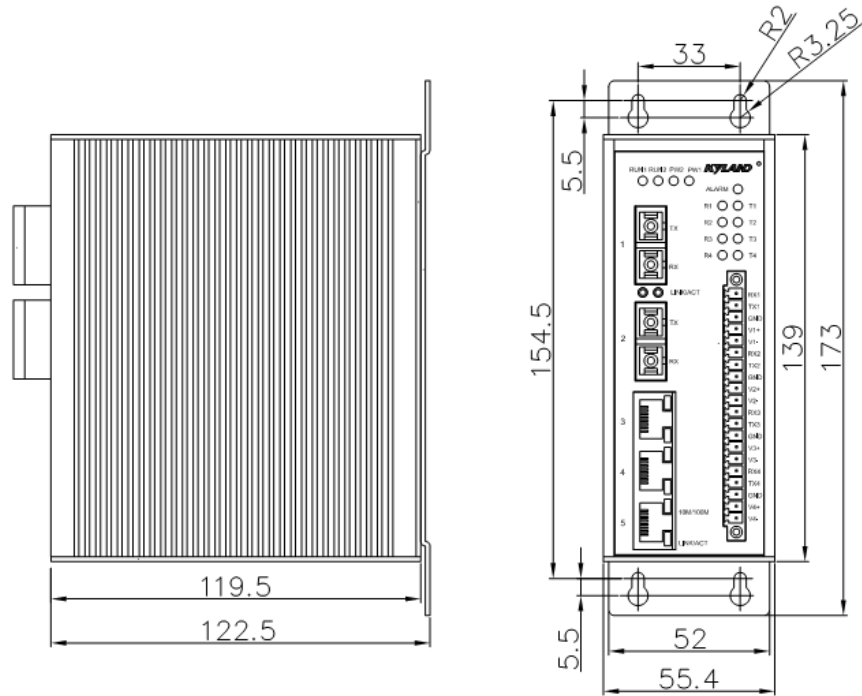

Figure .4-3 Dimension Diagram of SICOM3005 Wall-mounted Installation
For some application occasions, it is not convenient to install the DIN rail, so it is more applicable to use the wall-mounting installation. KYLAND can provide users with the wall-mounting plate. The dimension of the wall-mounting installation is shown as Figure .4-3.
3. Selection of Installation Position: Vertical wall or inner wall of the case. If it is selected to install to the wall vertically, it is suggested to use the  $\Phi 6$  plastic expansibility blot and  $\Phi 3$  self-contained screw to install the equipment. According to the installation dimension of the annotation in Figure 4-3, the impulse electric drill is used to punch 4  $\Phi 6$  holes in wall, whose depth should be able to contain the  $\Phi 6$  plastic expansibility blot. After the plastic expansibility blot is plugged into the hole, use the “+” screw driver to screw the self-contained screw into the plastic expansibility blot, but don’t screw it tightly and remain about 5mm distance. If it needs to install to the inner wall of the case, it is suggested to drill 4 M3 screw holes in the inner wall of case according to the installation dimension when the case is made, or use the electric drill to punch 4  $\Phi 4$  holes on scene by hand. Use the “+” screw driver to install the “+” rail screw of 4 M3 × 10 to the 4 holes. If there is